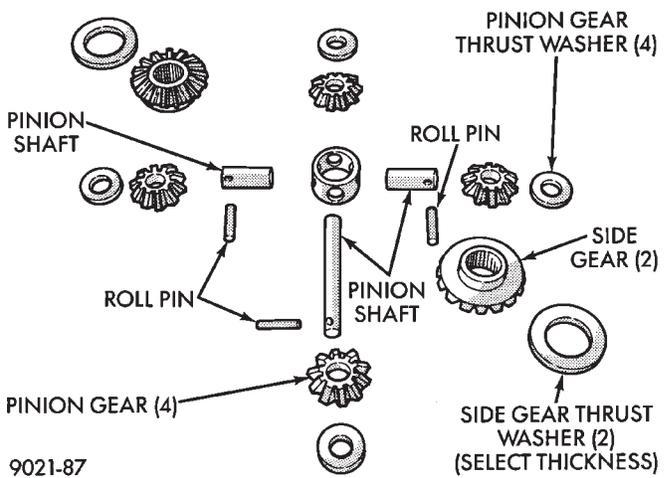

Fig. 12 Differential Gears
**CAUTION:** See Figure 12 to determine side gear thrust washer thickness. Side gear end play must be within .001 to .013 inch.